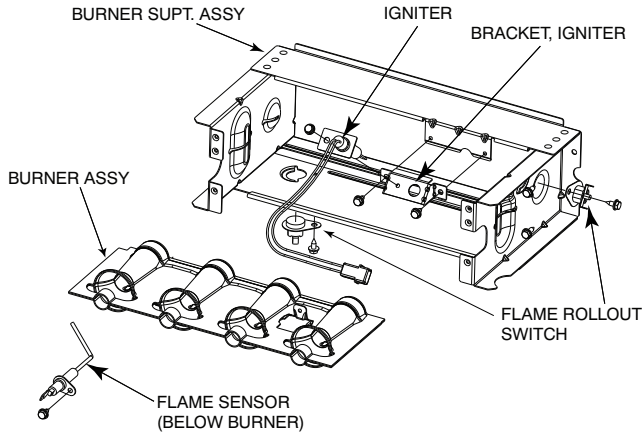

Fig. 66 - Burner Assembly
Refer to Fig. 66.
- a. Using a 1/4-in. driver, remove the two screws securing the igniter mounting bracket to the burner assembly See Fig. 66.
6. To replace igniter and bracket assembly, reverse items 5a through 5d.
7. Reconnect igniter harness to the igniter, dressing the igniter wires to ensure there is no tension on the igniter itself. See Fig. 66.